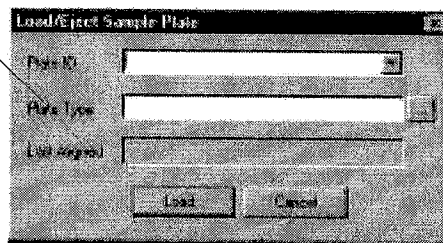

Figure 3-3 Load/Eject Sample Plate Dialog Box
4. From the Sample Plate menu select **Load** to retract the sample plate and insert it into the main source chamber. The Load/Eject Sample Plate dialog box (Figure 3-3) is displayed.